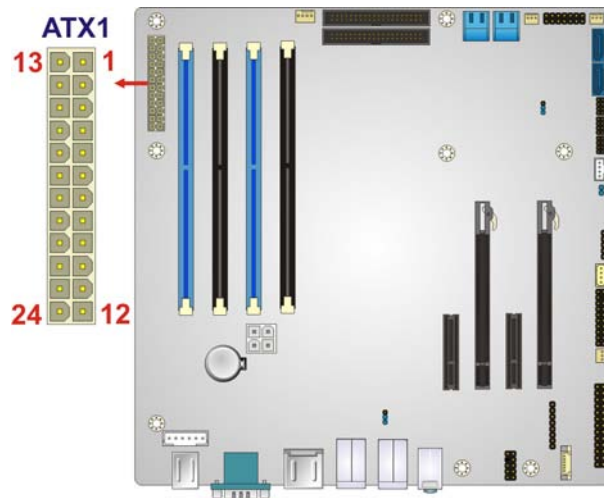

Figure 3-2: ATX Power Connector Location
- CN Location: See **Figure 3-2**